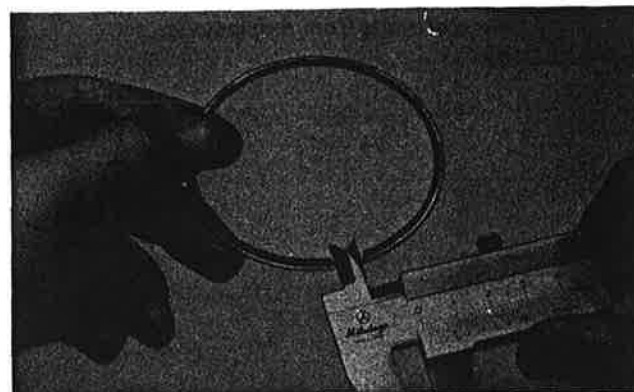

Fig. 3-3-19
2. Measure ring end gap in free position. If beyond tolerance, replace set. (Fig. 3-3-19)